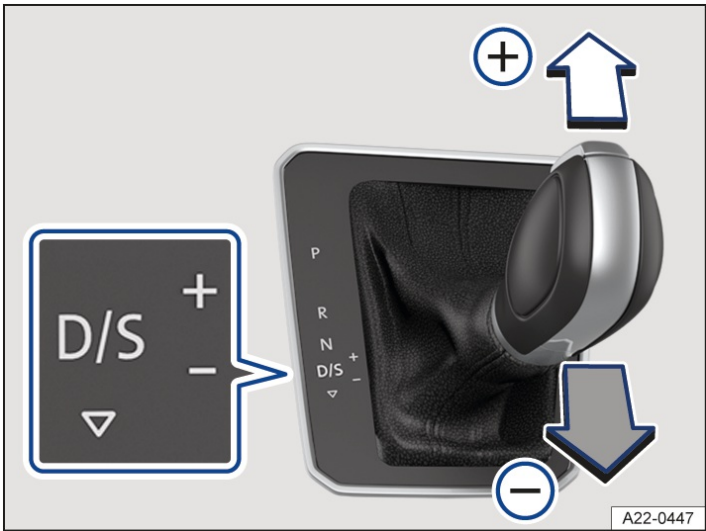

Fig. 1 Selector lever in Tiptronic position (left-hand drive).
2. Tap the selector lever forwards  or back  to shift gear up or down → Fig. 1.